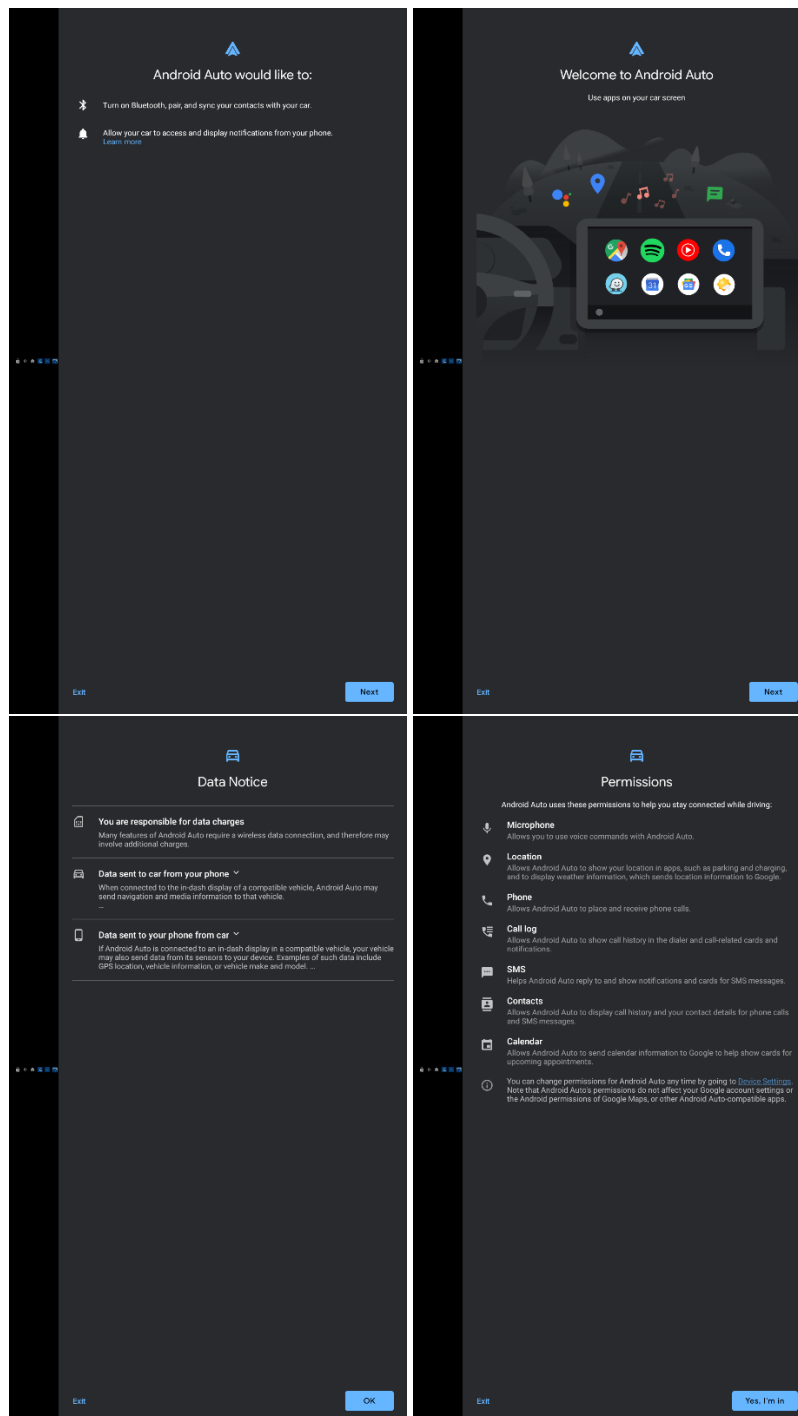

Figure 66: Some Android Auto first experience screens
5. You should see a series of dialogues appear on the HDMI screen (as seen in Figure 66) - accept all of them.